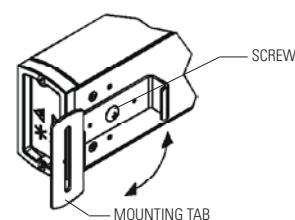

FIG.11
4. Rotate and position oblong holes located at each end. (Fig.11)